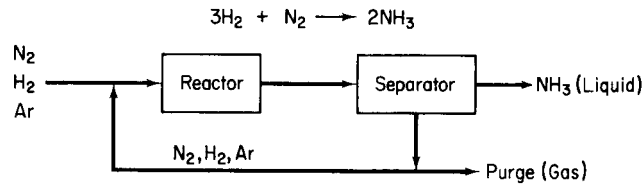

Figure SAT12.4P1
10. In the famous Haber process (Figure SAT12.4P1) to manufacture ammonia, the reaction is carried out at pressures of 800 to 1000 atm and at 500 to $600^\circ C$ using a suitable catalyst. Only a small fraction of the material entering the reactor reacts on one pass, so recycle is needed. Also, because the nitrogen is obtained from the air, it contains almost 1% rare gases (chiefly argon) that do not react. The rare gases would continue to build up in the recycle until their effect on the reaction equilibrium would become adverse. Therefore, a small purge stream is used.